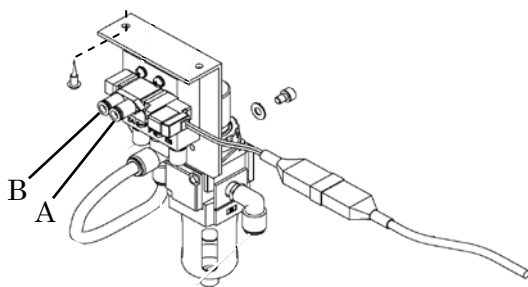

Fig.2
- (1) Please fix with two wood screws provided the pneumatic pressure control unit of sewing machine table underside as shown in Figure 2.
- (2) Pass the air tubes through the notched section on the side of the sewing machine unit's motor cover, and lead the tubes to the bottom of the table from the square hole on the table.
- (3) Insert to match the symbols A and B of the air tubes described above to the solenoid valve and the Pneumatic 2-Step Tensioner ,as shown in Figure 2 and 3.